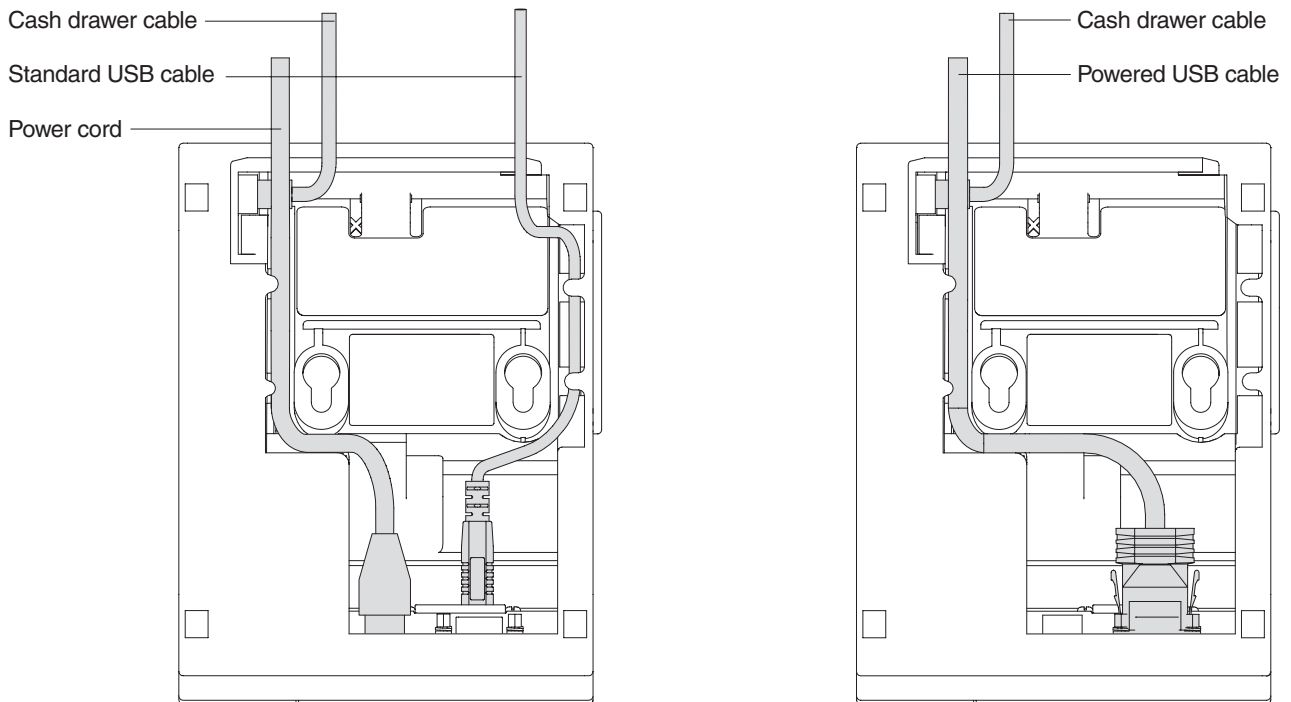

Figure 10. USB Cable Routing for Single-Station SureMark Printers
3. For single-station printers, route any power cord and cables as shown in Figure 10.